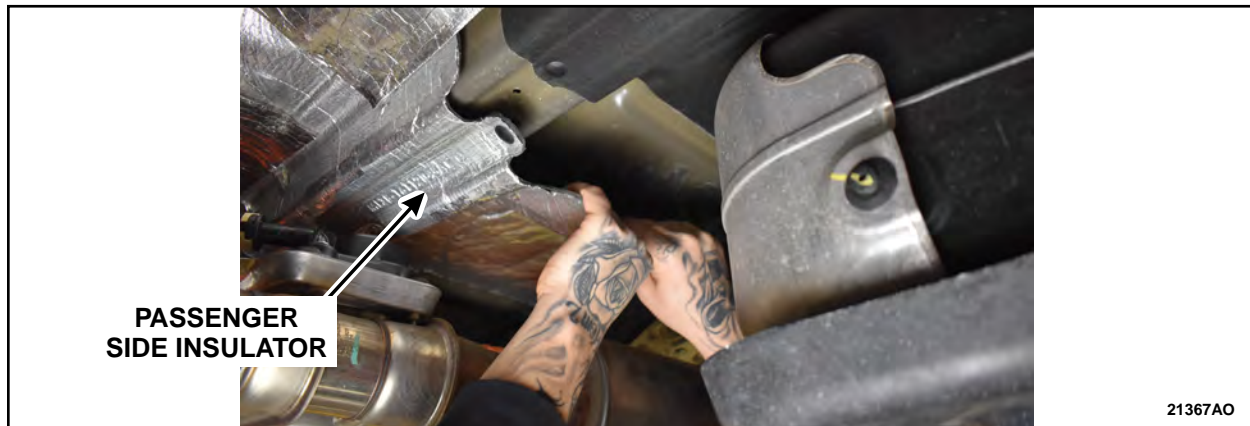

FIGURE 11
11. Carefully remove and discard the passenger side insulator from the underside of the pickup bed. See Figure 11.